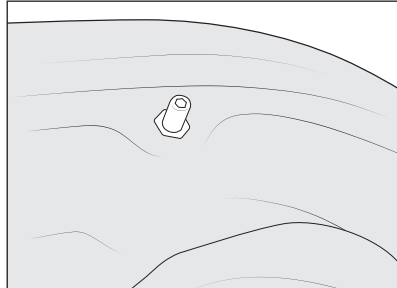

Figure 18
- B. Install the provided black M6x20mm threaded studs into the threaded inserts in the back of the plastic bumper hoop cover (fig 18). Use an allen driver to tighten them until fully seated snug into the inserts, then install the plastic hoop cover to the main weldment, being careful not to pinch any wiring or hoses. Install the provided black M6 flange nuts and washers. Make sure the cover is centered on the hoop, and tighten the nuts to 100 in-lb.